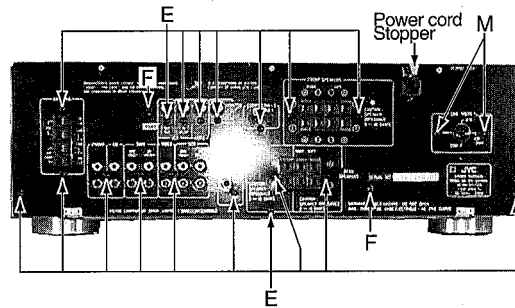

Fig.4
- 2.Remove 18 screws E and 2 screws F (Fig.4)